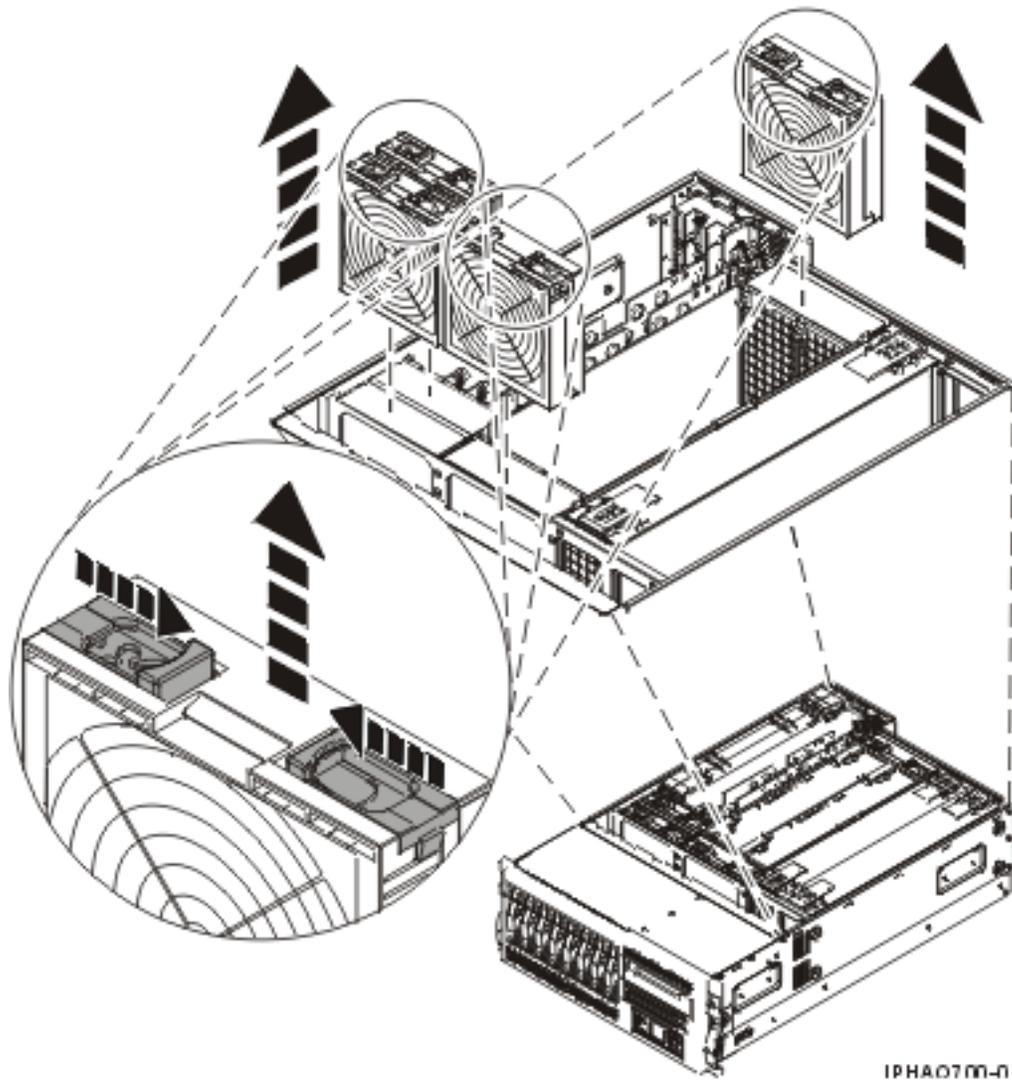
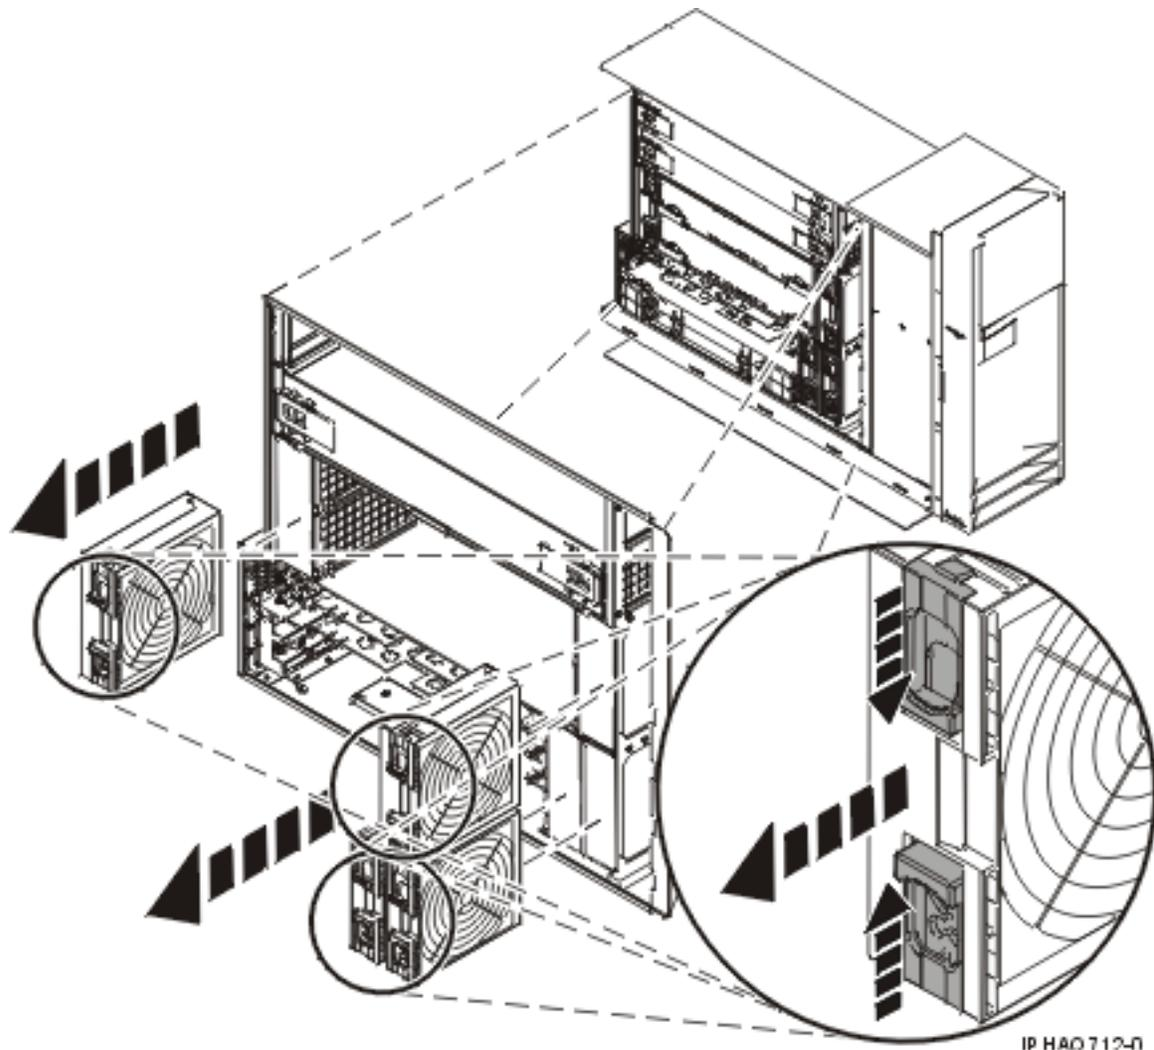

Figure 30. Removing the system unit fan in a rack-mounted system
Figure 31. Removing the system unit fan in a stand-alone system
5. As shown in Figure 30 on page 32 and Figure 31 on page 33, unlock the locking tabs on top of the failing fan and hold them in the open position.